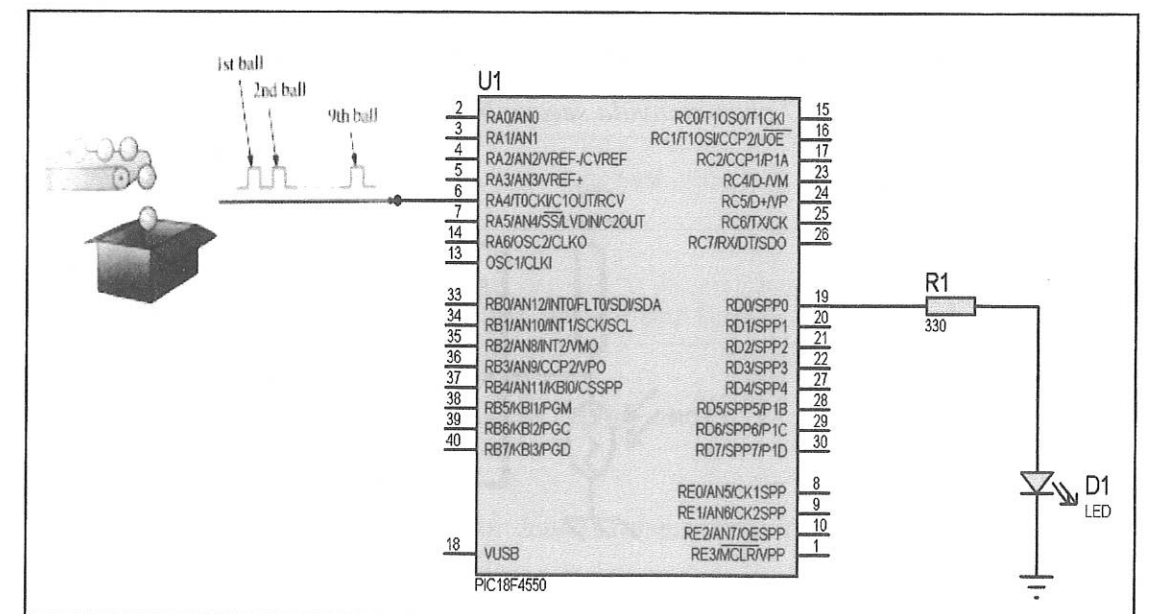

Figure A2(c) / Rajah A2(c)
- (c) **Figure A2(c)** shows a conveyor system used for loading tennis balls into a box.